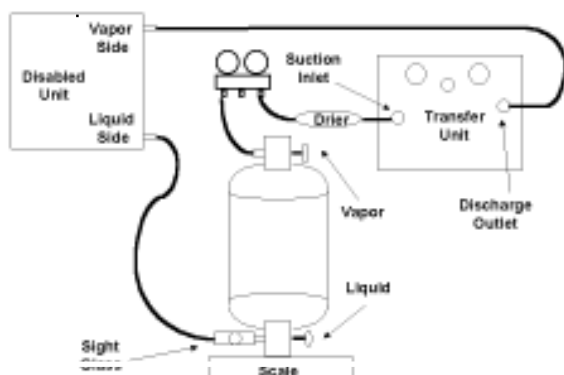

Figure 2: Liquid Recovery
- If performing liquid recovery, arrange hoses as indicated in Fig. 2.